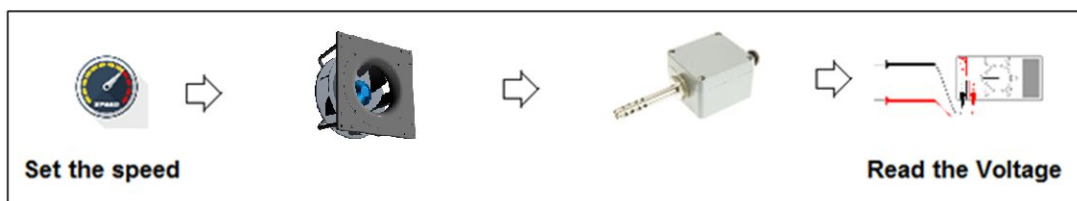

Fig. 14 – Find the PID Reference
- 3) In open loop set the fan speed at the desired performance and read the transducer voltage value (Fig.14)